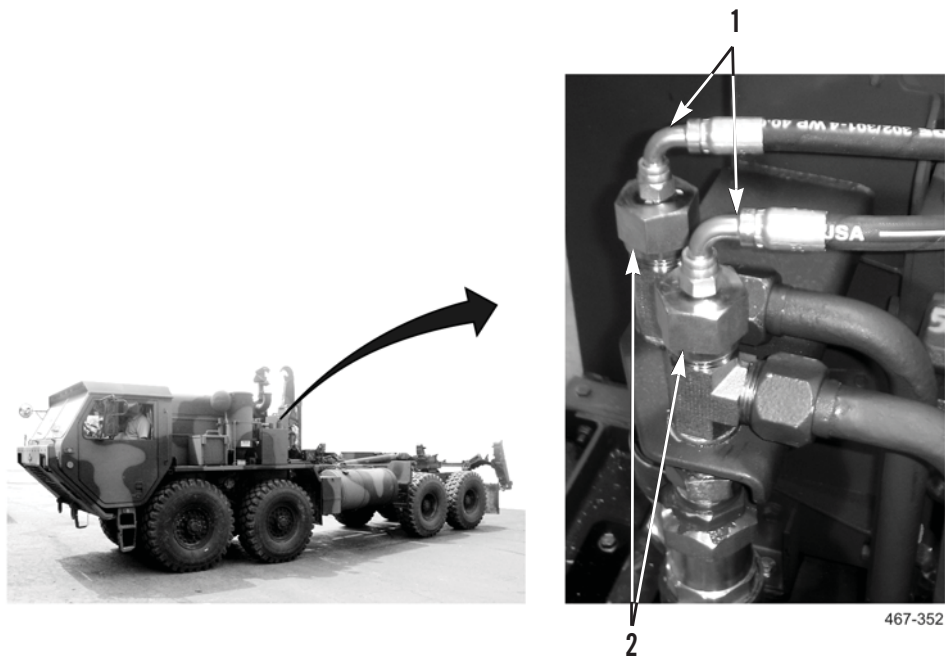

Figure 1. Fitting Hose Removal.
4. Remove two hydraulic hoses (Figure 1, Item 1) from quick disconnect T-fittings (Figure 1, Item 2).